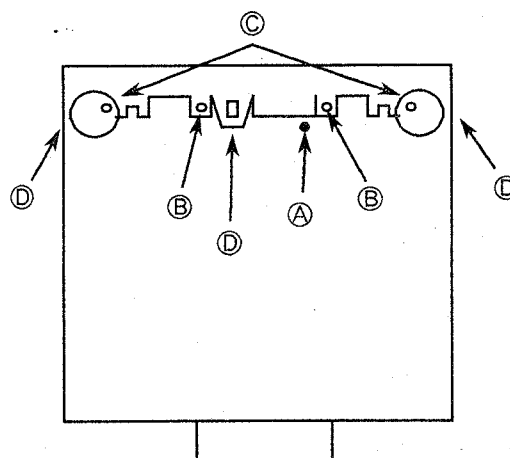

Fig. 1 Bottom view
6. Release the 3 hooks ④ to remove the front panel assembly from the chassis, and remove the main volume circuit board from the front panel (Fig. 1).